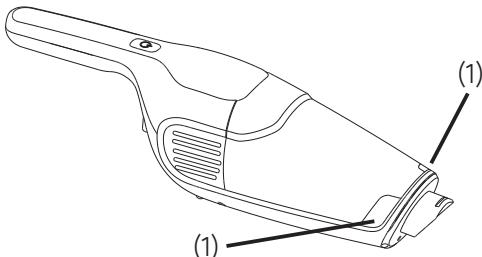

Fig. 6-1
- 1) Detach the accessory on the sub-unit, and then press down left & right release button (2) of dust cup (1) at the same time to make it be separated from the sub-unit. (see Fig 6-1)